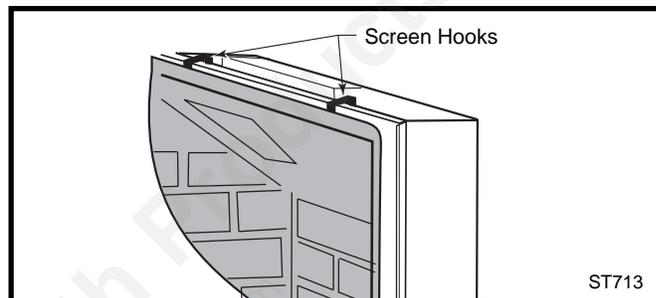

Fig. 18 Remove screen.
1. Remove screen. (Fig. 18) Remove rear, left and right log bracket assembly by unfastening the two screws which hold the burner in place.